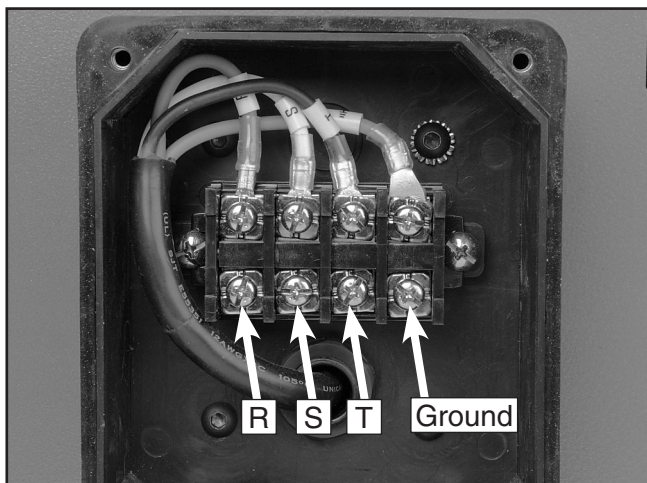

Figure 54. Main terminal box.
1. Open the terminal box shown in **Figure 54**.
2. Feed the power cord through the strain relief on the bottom of the control panel and connect the cord to the terminals shown in **Figure 54**, then close the terminal box.